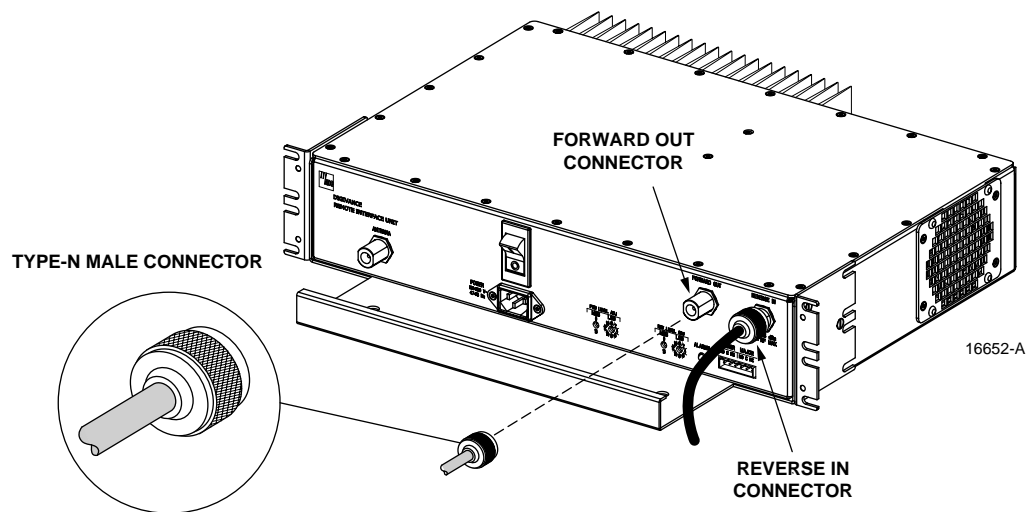

Figure 9. FORWARD OUT and REVERSE IN Coaxial Cable Connections
3. Connect the forward path cable to the **FORWARD OUT** connector on the RIU front panel as shown in Figure 9.
4. Connect the reverse path cable to the **REVERSE IN** connector on the RIU front panel as shown in Figure 9.